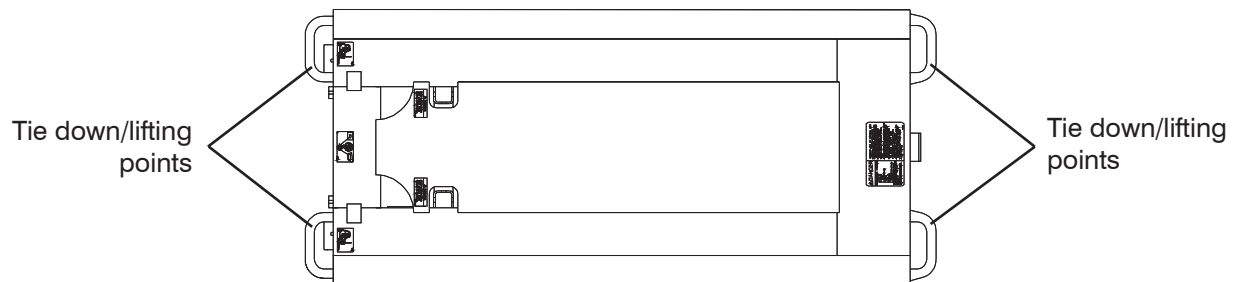

Figure 3-14. Tie Downs/Lifting Points
- The lifting/rigging must be attached to all four lifting points as illustrated in Figure 3-14.
**When transporting, the aerial platform must be secured to the truck or trailer deck. Tie downs are available as illustrated in Figure 3-14.**